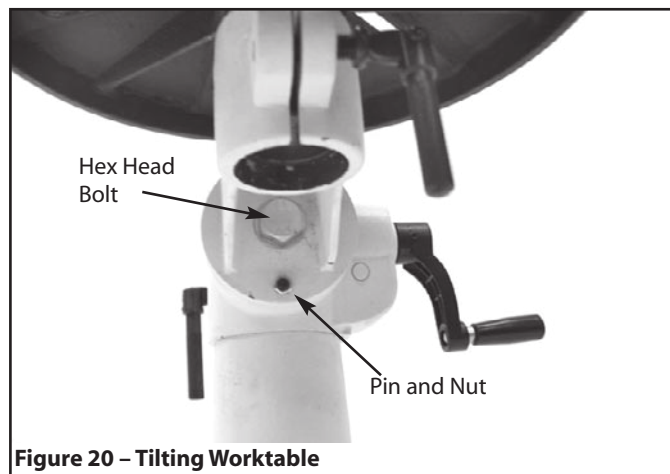

Figure 20 – Tilting Worktable
- Clamp table securely after adjustments have been made. (See Figure 20).